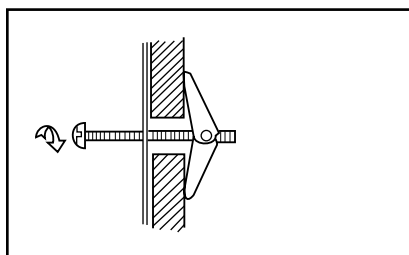

Figure 19
4. Align the Mounting Plate carefully and hold in position while tightening Toggle Bolts. Pull Toggle Bolt toward you and turn clockwise to tighten. Figure 19.